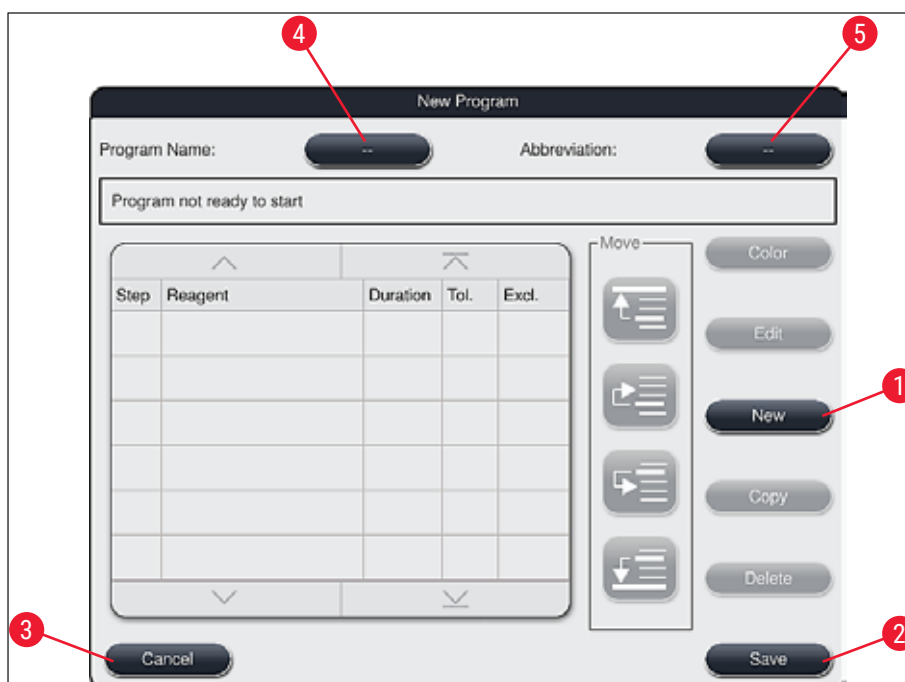

Fig. 45
- A new program window opens (→ "Fig. 45").
- It opens the entry window (→ "Fig. 45") for the new program to be created.